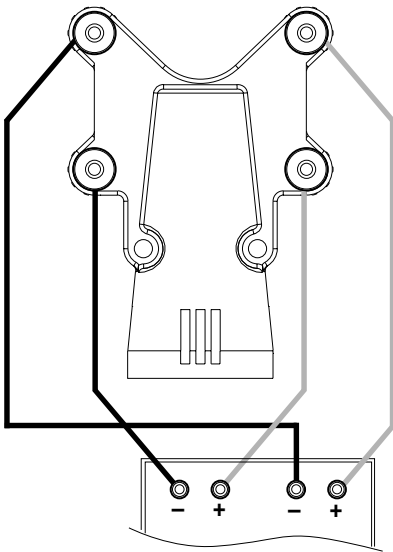

FIGURE 5
- 3) Repeat Steps 1 and 2 for the second loudspeaker using the second amplifier. **See Figure 5.**